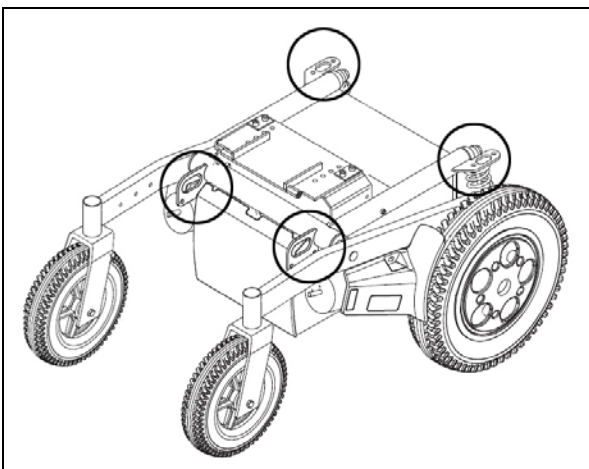

Figure 3.17: Tie-down points for safe transport. The tie-down points are the same for front wheel and rear wheel drive.
- The wheelchair should be secured only at the tie-down points on the frame (figure 3.17), not onto other parts of the wheelchair or onto any accessories (armrests, anti-tip brackets etc).